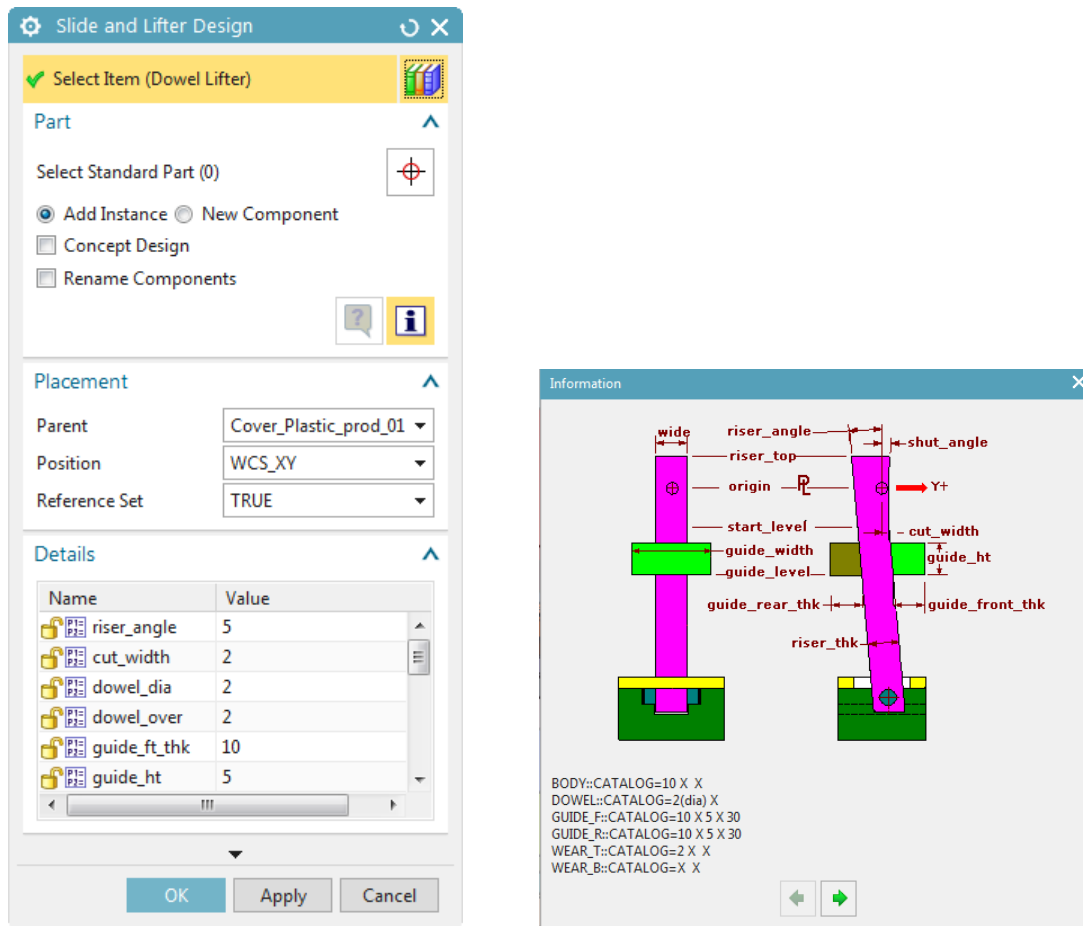

Figure 16-114 The *Slide and Lifter Design* dialog box and the *Information* window
2. Select the **Lifter** folder in Main Panel and **Dowel Lifter** in the **Member Select** panel of the **Reuse Library**; the **Slide and Lifter Design** dialog box and the **Information** window gets modified, refer to Figure 16-114.